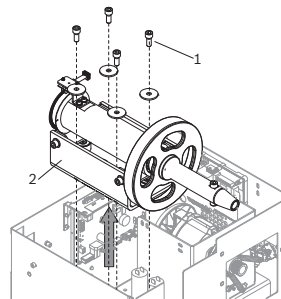

Fig. 12: Removal of the oscillating unit
6. Loosen the 4 allen screws that keep it in position and extract the oscillating unit (fig.12);